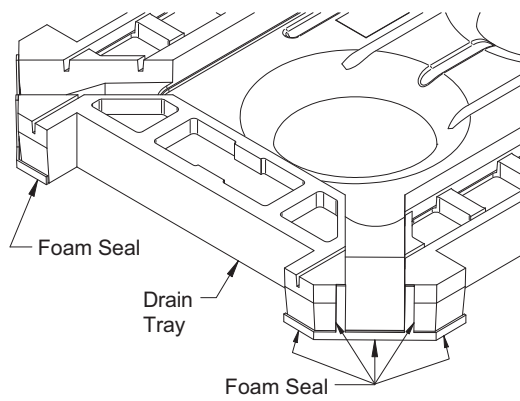
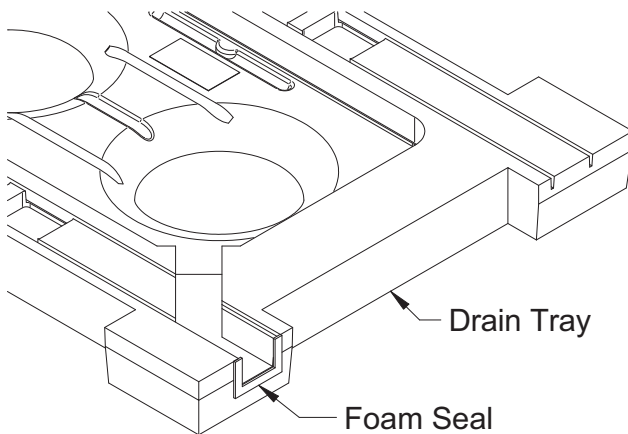

Fig. 45 — Foam Seal on Drain Tray Corners
Fig. 47 — Foam Seal on Drain Tray (Control Panel Side)
6. The drain tray has fresh air channels that match up to fresh air openings on the chassis. Identify the fresh air channels on the drain tray. See Fig. 45 for the fresh air channels on the corners of the drain tray. See Fig. 47 for the fresh air channel that would be adjacent to the control panel (only for model sizes 18 through 36).